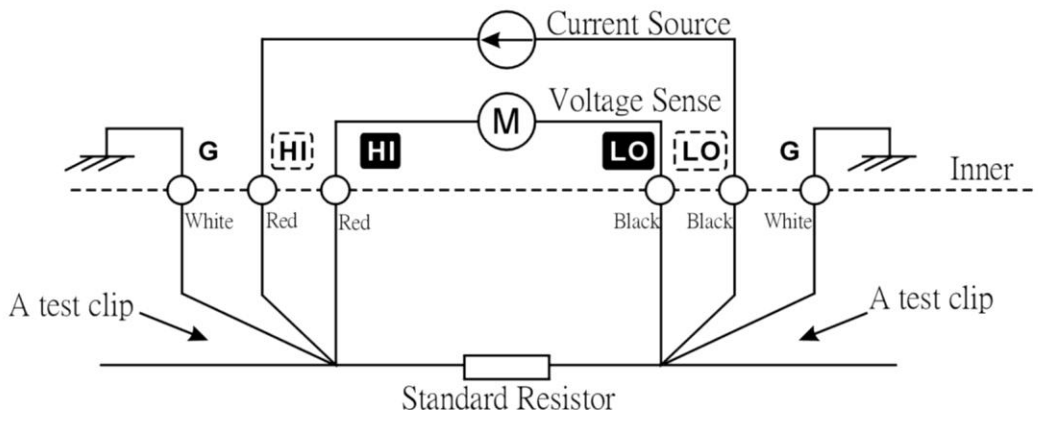

Figure 9. Calibration with Resistor Standard
4. Connect the Resistor Standard to the meter in a 4-wire configuration, refer to Figure 9. Wait for a period of time as specified in Reference Table 1, for the XT560 to stabilize. Then press the SHIFT and HOLD keys at the same time.